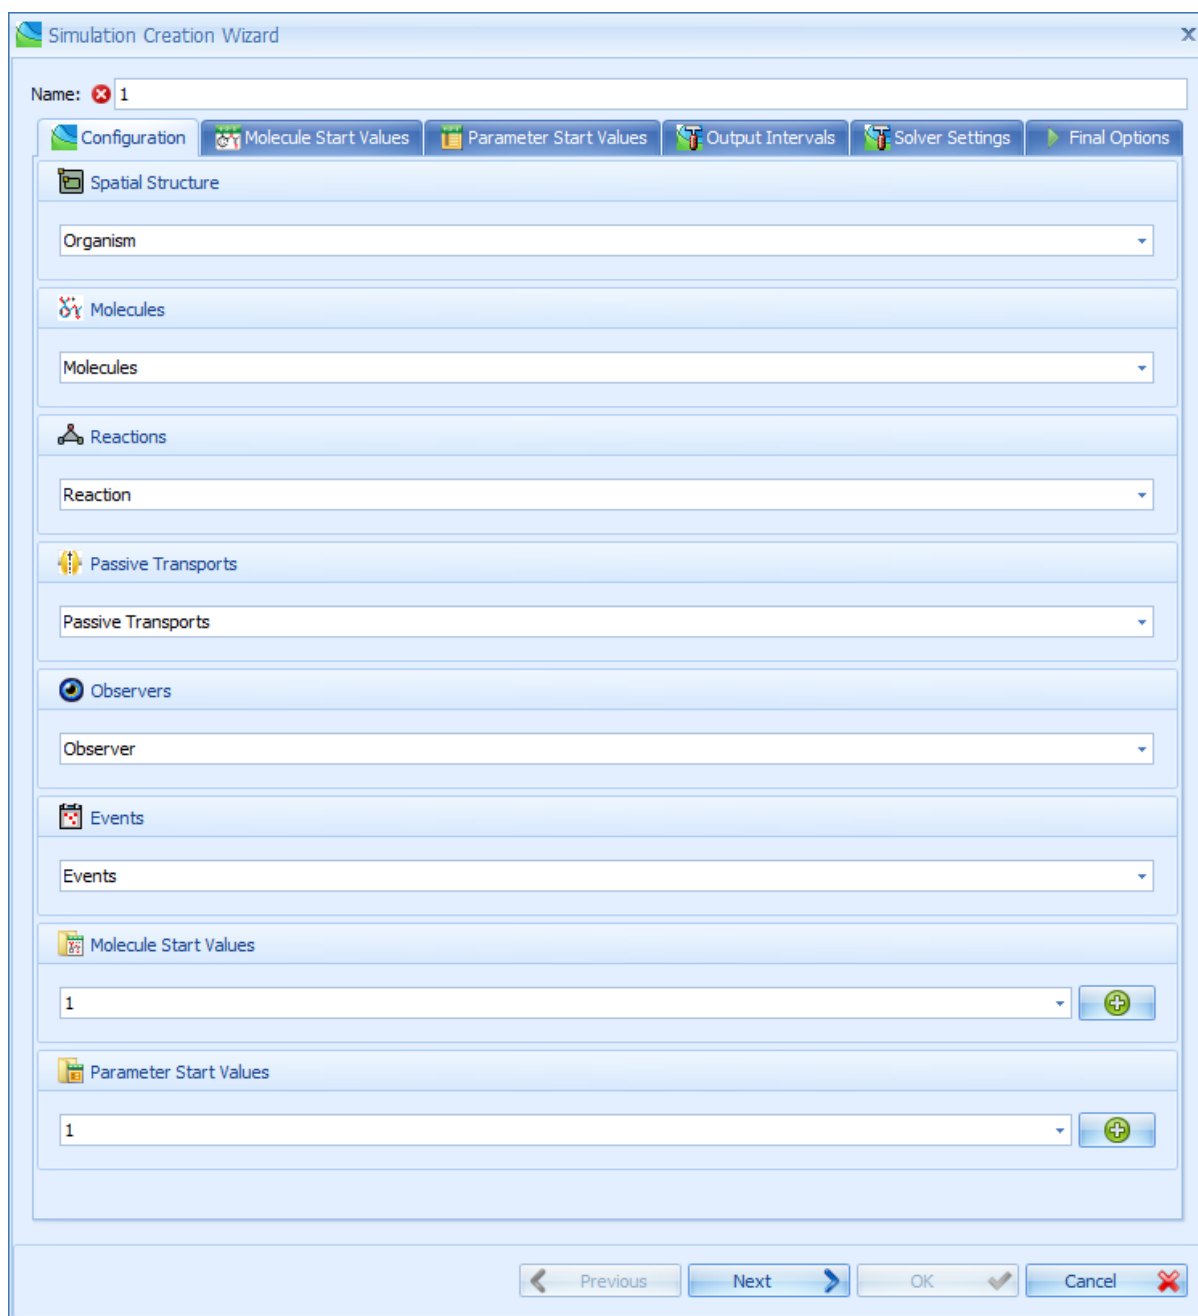

Figure 23.7. Simulation Wizard Window
Start values can also be created during the next step (Simulation Creation Wizard window) by using the  icons which start the same parameter generation procedure. Compare Figure 23.7 and Section 26.2, "Create a Simulation".
2. Click the ribbon button  **Create**. The simulation creation wizard opens (see Figure 23.7), showing you the default values for all building blocks to be used for the simulation.